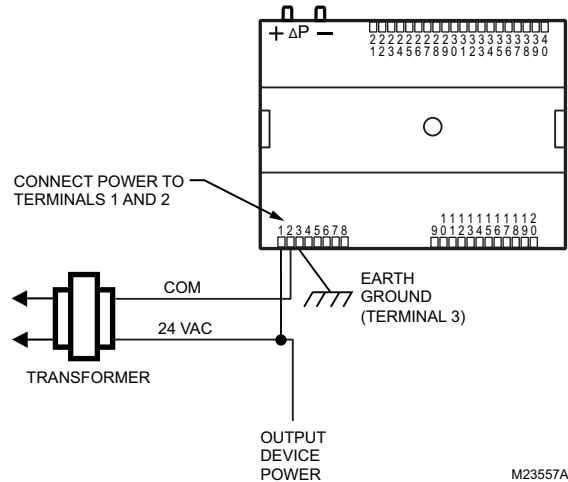
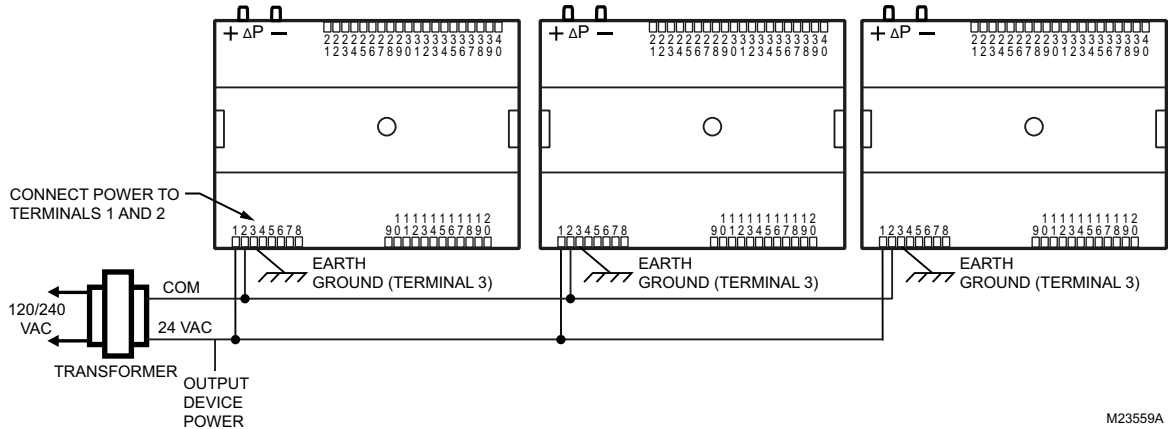

Fig. 11. Power wiring details for one controller per transformer.
Fig. 13. Power wiring details for two or more controllers per transformer.
- When multiple controllers operate from a single transformer, connect the same side of the transformer secondary to the same power input terminal in each device. The earth ground terminal (terminal 3) must be connected to a verified earth ground for each controller in the group (see Fig. 13 on page 11).
See Fig. 11–Fig. 13 beginning on page 10 for illustrations of controller power wiring. See Table 4 for VA ratings of various devices.
- For multiple controllers operating from a single transformer, the same side of the transformer secondary must be connected to the same power input terminal in each device. The earth ground terminal must be connected to a verified earth ground for each controller in the group (see Fig. 13 on page 11). Controller configurations are not necessarily limited to three devices, but the total power draw, including accessories, cannot exceed 100 VA when powered by the same transformer (U.S. only).
- Keep the earth ground connection wire run as short as possible (refer to Fig. 11–Fig. 13 beginning on page 10).
- Do not connect earth ground to the controller’s digital or analog ground terminals (refer to Fig. 11 and Fig. 13).
on page 7. The earth ground terminal (terminal 3) must be connected to a verified earth ground for each controller in the group (see Fig. 13 on page 11).
Fig. 11 depicts a single controller using one transformer.
More than one controller can be powered by a single transformer. Fig. 13 shows power wiring details for multiple controllers.